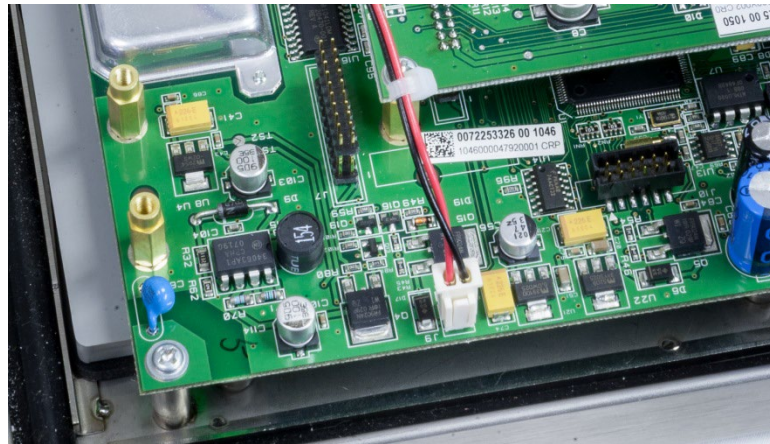

Figure A-8: Battery Power Connector
3. Unplug the power connector from the main board (Figure A-8).
7. Reconnect the battery power connector to the main board (Figure A-8).